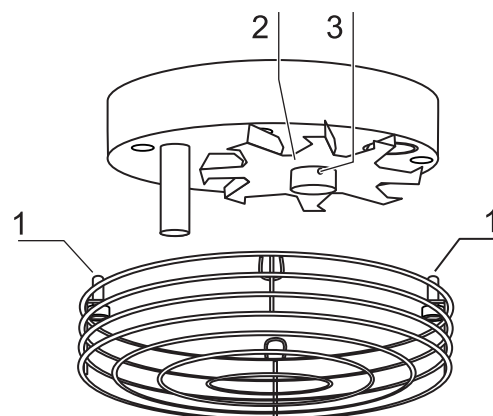

Fig. 28,
1. **Fig. 28:** Remove the two retaining screws [1] of the cover using the supplied Allen wrench (3 mm) and remove the cover.